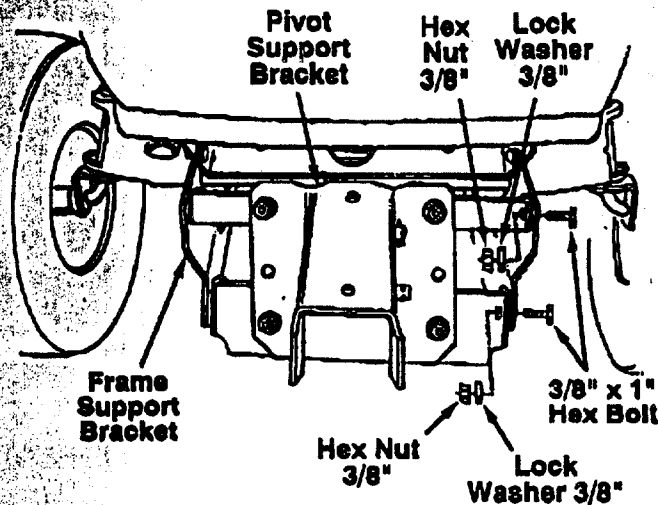

FIGURE 4
- Place the pivot support bracket between the frame support brackets in front of the tractor. Attach the upper and lower support brackets to the frame support brackets using four 3/8" x 1" hex bolts, 3/8" lock washers and 3/8" hex nuts. See figure 4. Tighten securely.